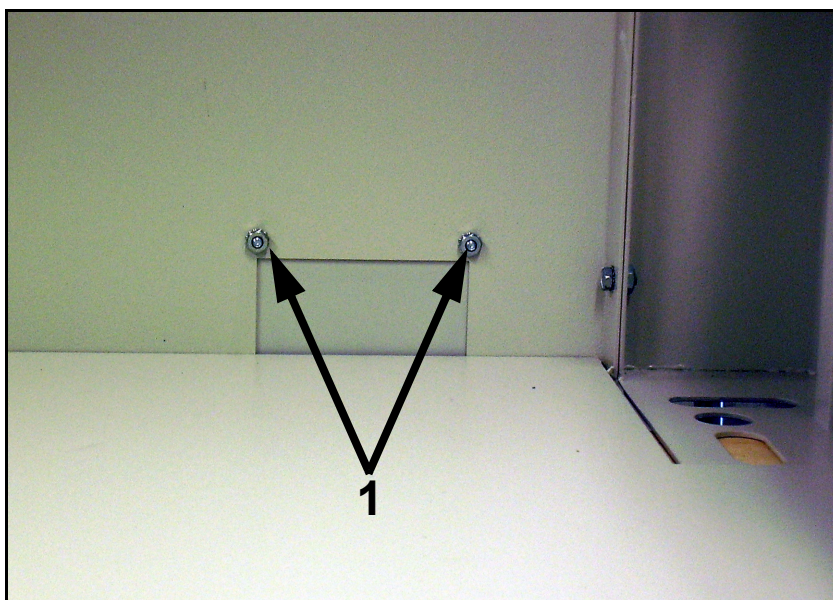

Figure 2-30. Port Cover Nuts
- 50** Secure the cover in place with nuts (1 in Figure 2-30).